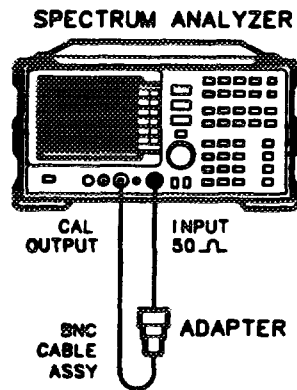

Figure 3-4. Resolution Bandwidth Switching and IF Alignment Uncertainty Test Setup
1. Connect the HP 8562A/B CAL OUTPUT to the RF INPUT 50 Ω as shown in Figure 3-4.